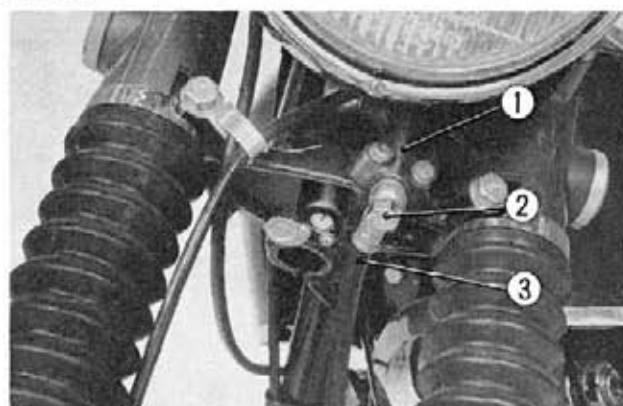

Fig. 14-3 ① Joint
② Oil bolt
③ Oil hose
2. Disconnect the front brake hose at the joint by removing the oil bolt. (Fig. 14-3)